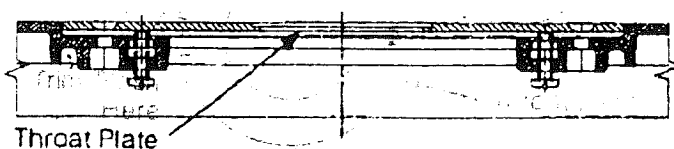

FIGURE 4.
3. While pressing down on the throat plate, gradually turn the screws inward or outward until the throat plate is level with the table top. Throat plate must be stable; that is, it must rest on all four screws and not "rock" when pressure is applied. Refer to Figure 4.